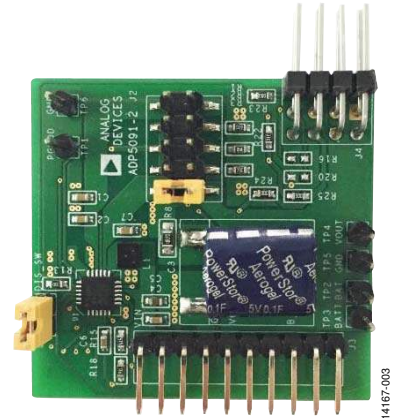

Figure 3. Jumper Setup
2. Connect J2\_1 and J2\_2 on the evaluation board, as shown in Figure 3.